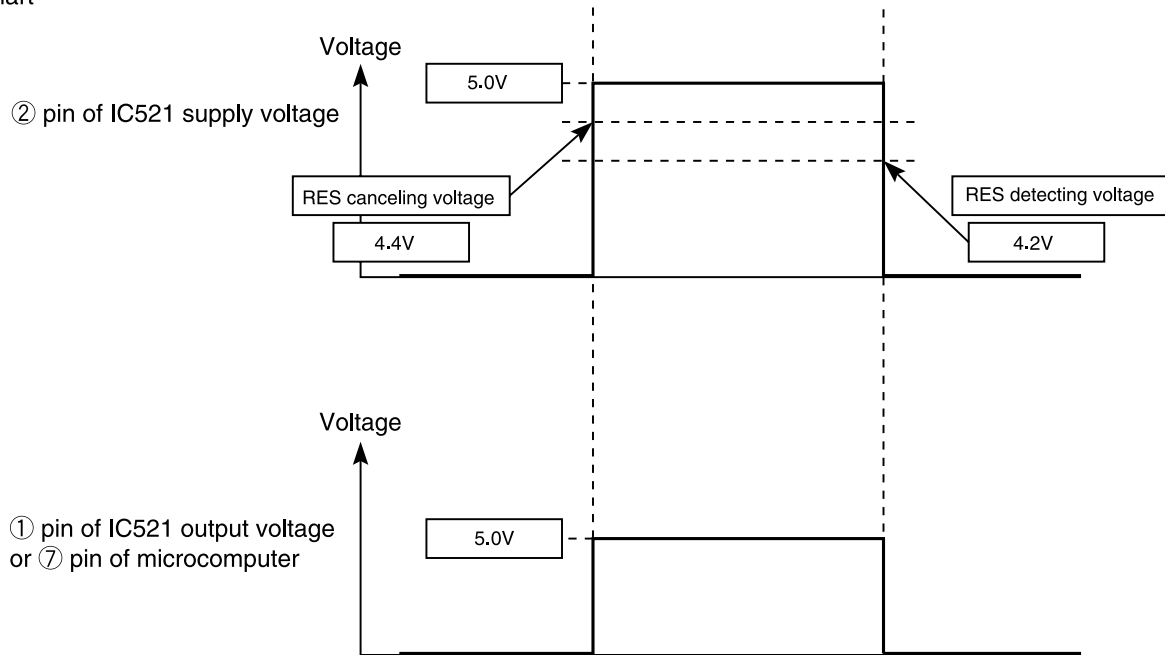

Fig.2-2
- Microcomputer operates when ⑦ pin of the indoor unit microcomputer (reset input) is "Lo" for resetting and "Hi" for hitting.
- Waveform of each part when switching ON the power and when shutting down is shown in the Fig. 2-2.
- After switching ON the power, ① pin of IC521 supply voltage and ⑦ pin of microcomputer becomes Hi when DC5V line rises and reaches approximately 4.4V or higher.